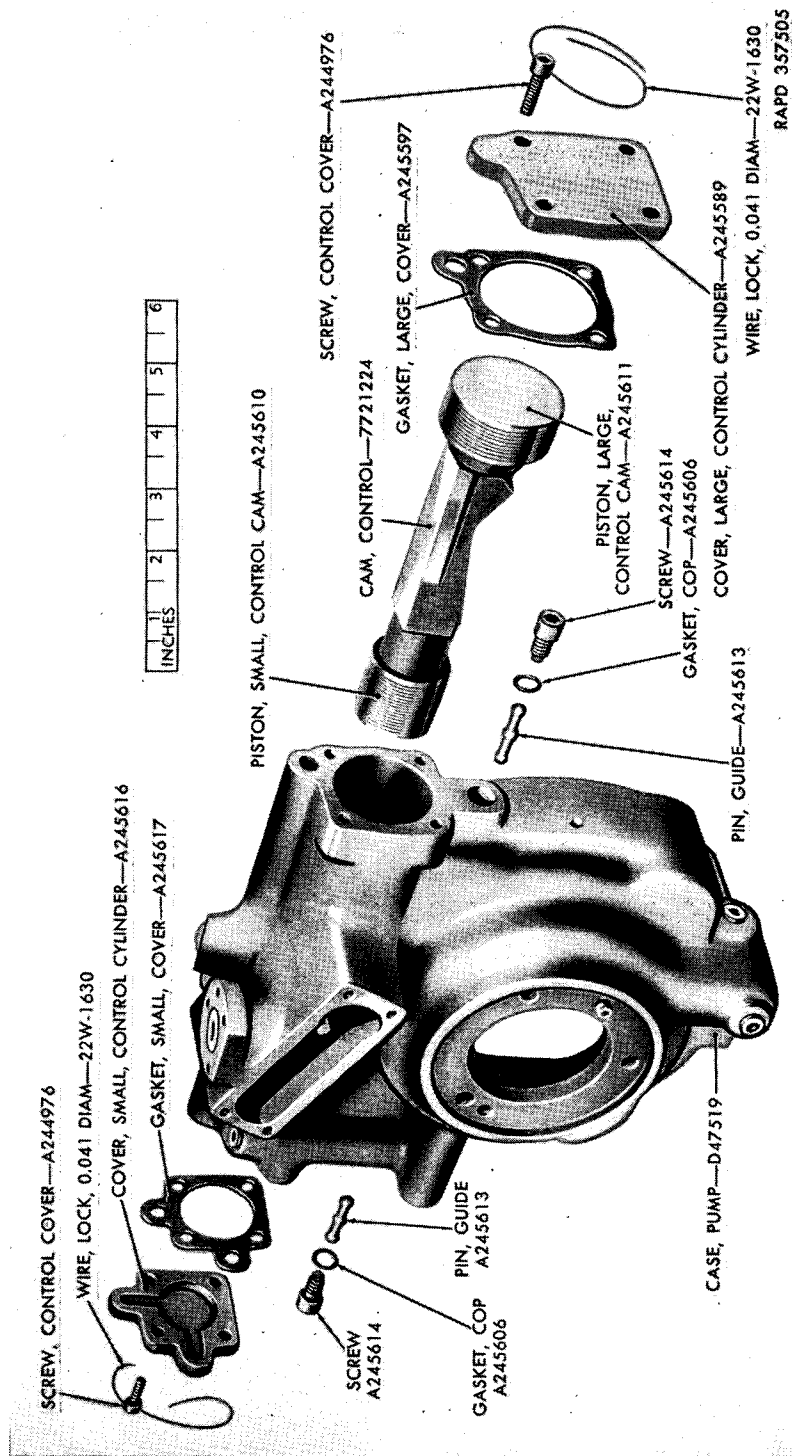

Figure 46. Hydraulic pump control cam and piston, exploded view.
d. **REMOVE GEAR PUMP HOUSING AND DRIVE SHAFT ASSEMBLY** (figs. 36 and 37). Cut and remove wire from the two control cam piston cover screws (fig. 46). Remove the four screws from each control cam piston cover. Check to see if control cam pistons are equal distances from ends of bore. If not, apply finger pressure to either piston to center cam. This procedure moves slide block race to neutral position concentric with drive shaft to permit disassembly